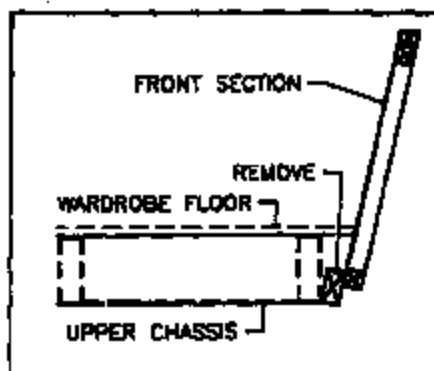
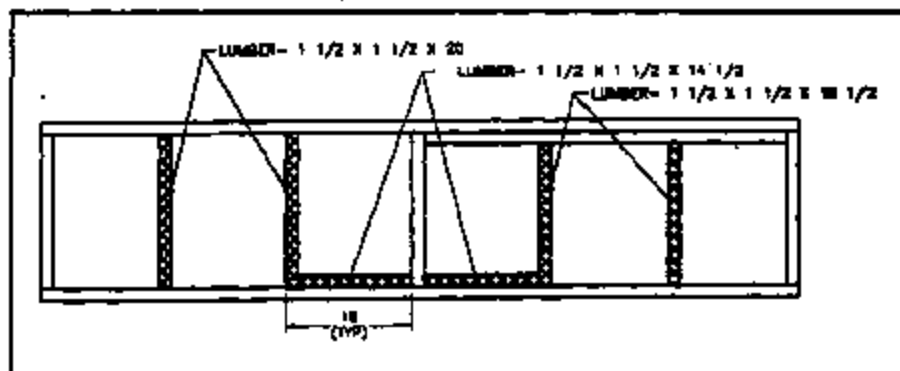

Figure 1
Figure 2
4. See Figure 1. Remove and discard the 2 X 4 as shown. Reinforce the front by adding $1\frac{1}{2}$ " X $1\frac{1}{2}$ " framing. Fasten with white wood glue and finish staples. See Figure 2. Set aside for reinstallation in a later step.